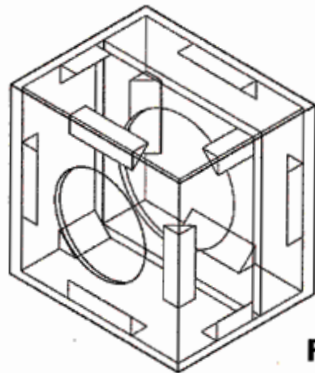

Fig. 1
9. Use 2 or 3 layer MDF and bracings (See Fig.1) for reinforcing speaker box for best performance if possible. Use 21mm (3/4 inch) thick Medium Density Fiberboard (MDF) or High Density Particleboard.